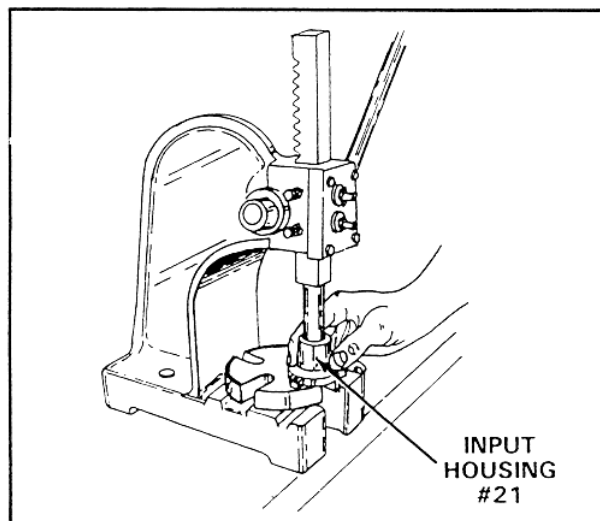

FIGURE 2
- 3.08 With a suitable arbor press both needle bearings (#22) through housing (#21) as shown in figure 2. (**CAUTION: DO NOT SUPPORT INPUT HOUSING ON THREE BOLT HOLE TABS**).